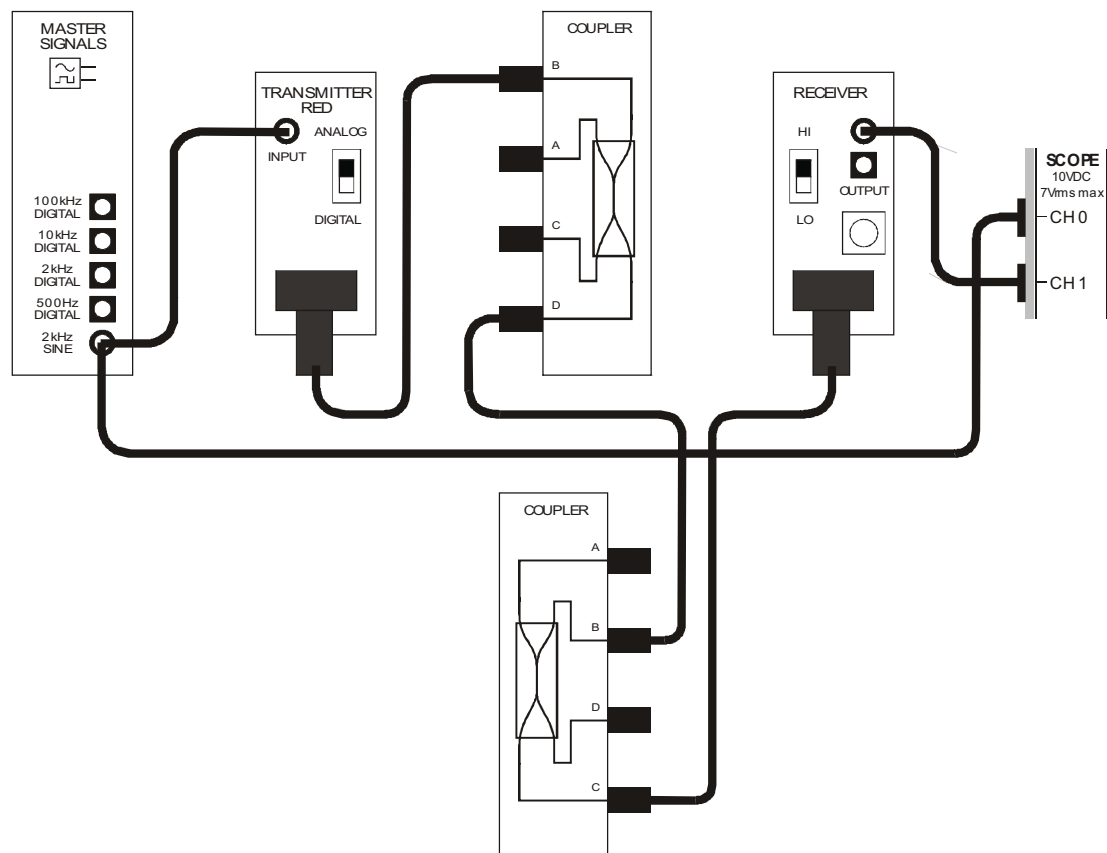

Figure 2
11. Connect the set-up shown in Figure 2 below using the Transmitter and Receiver modules you adjusted for Steps 8 to 10.